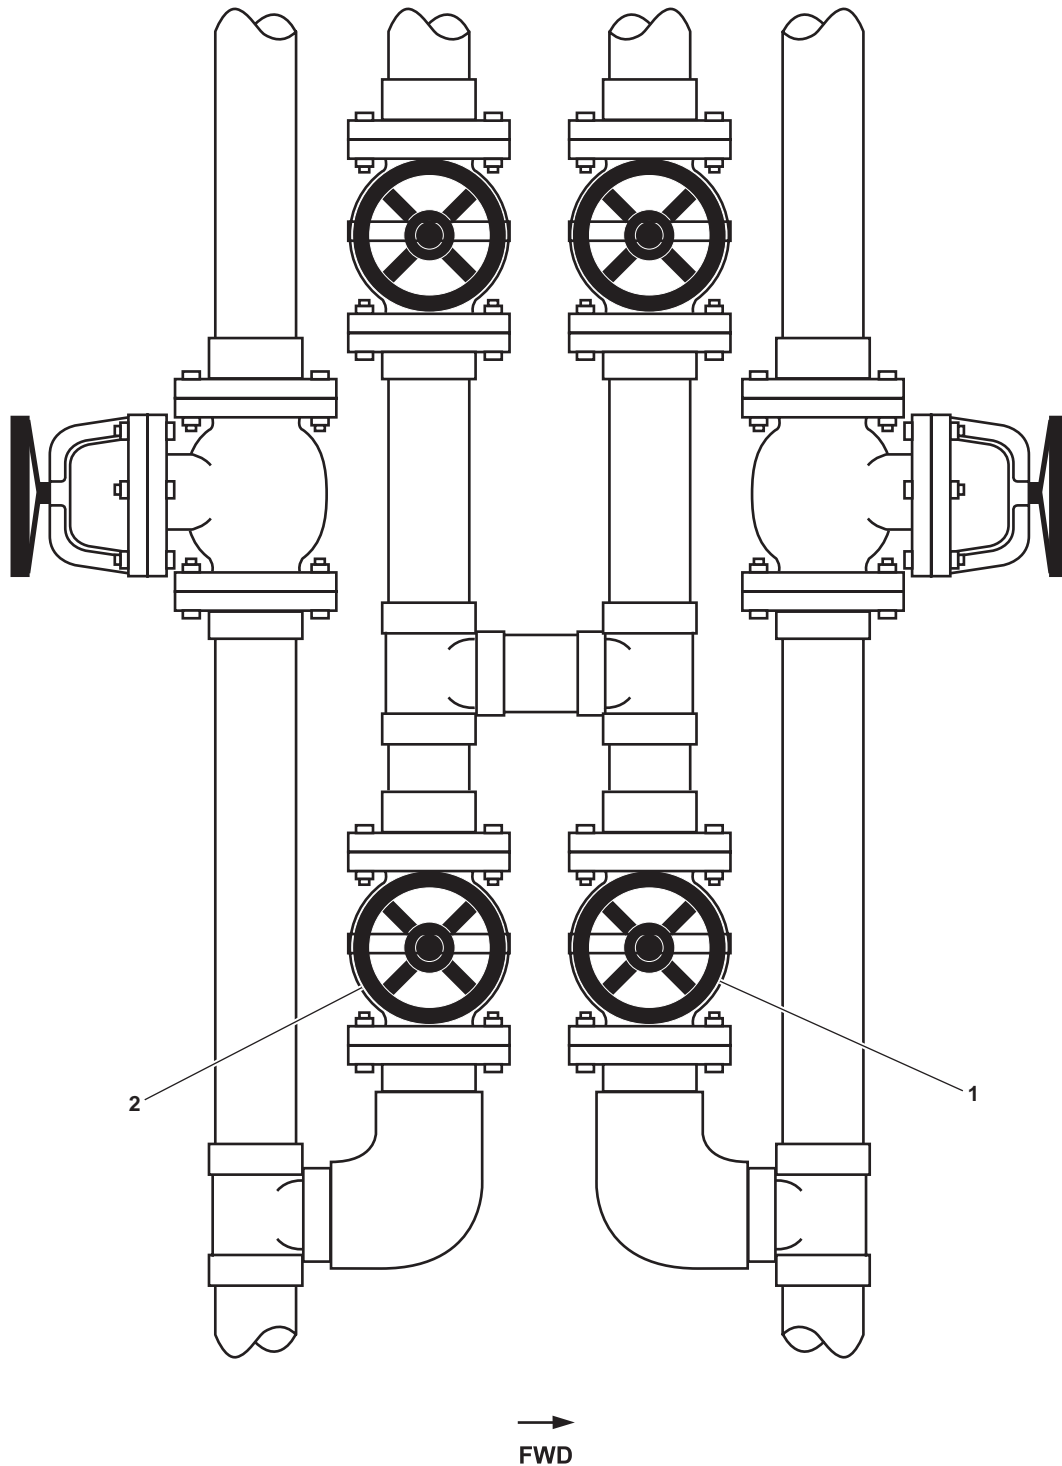

Figure 1. Fire and General Service Pump Valves
- a. FM-17, FIRE/G.S. PMP NO. 1 DISCH TO G.S. (figure 1, item 1)
- b. FM-15, FIRE/G.S. PMP NO. 2 DISCH TO G.S. (figure 1, item 2)